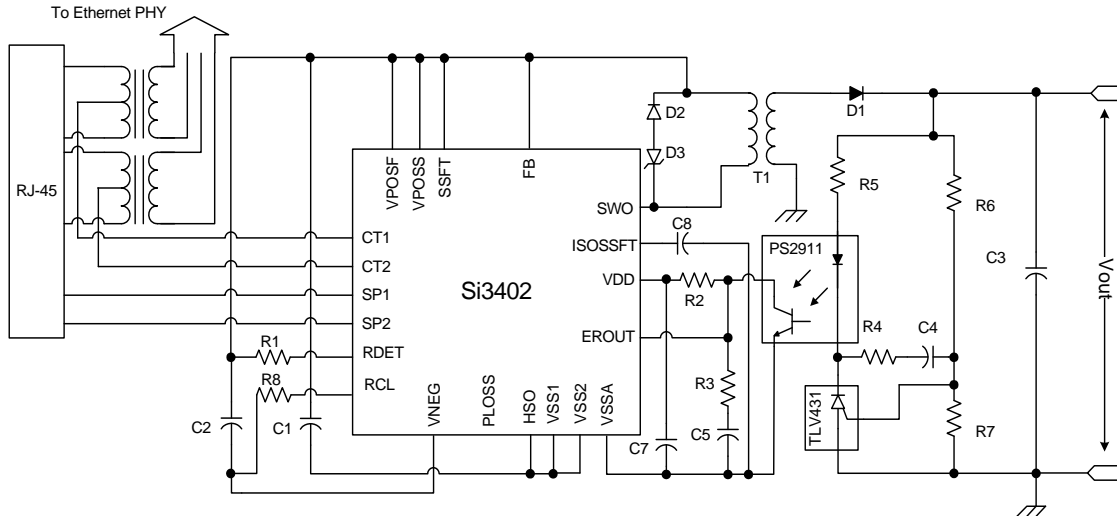

**Figure 1. Schematic—Class 0 with Non-Isolated 5 V Output\***
6. Applies to non-isolated applications only (VOUT on schematic in Figure 1).
The application determines the converter topology. An isolated application will require a flyback transformer-based switching topology while a non-isolated application can use an inductor-based buck converter topology. In the isolated case, dc isolation is achieved through a transformer in the forward path and a voltage reference plus opto-isolator in the feedback path. The application circuit shown in Figure 2 is an example of such a topology. The non-isolated application in Figure 1 makes use of a single inductor as the energy conversion element, and the feedback signal is directly supplied into the internal error amplifier. As can be seen from the application circuits, the isolated topology has an increased number of components, thus increasing the bill of materials (BOM) and system footprint.